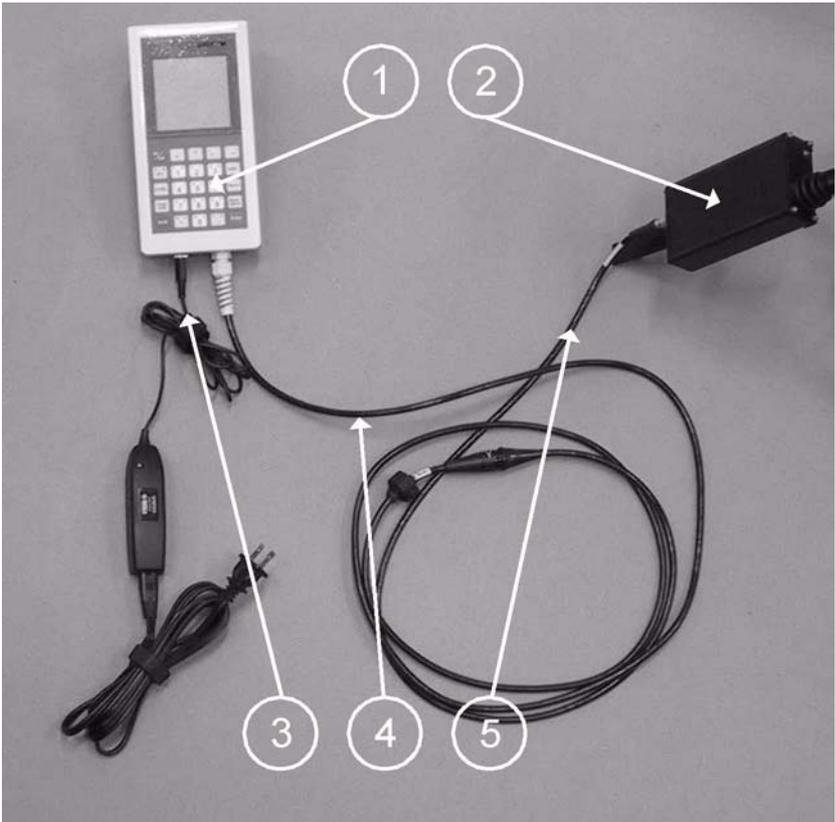

Figure 50 Connecting Radio Modem to the Handheld Terminal
- 2. For connecting the Handheld Terminal to a radio modem, refer to Figure 50 on page 62.
- a. Place the correctly configured radio modem to the adapter that is mounted on the leg of the tripod (number 2 in Figure 50 on page 62).